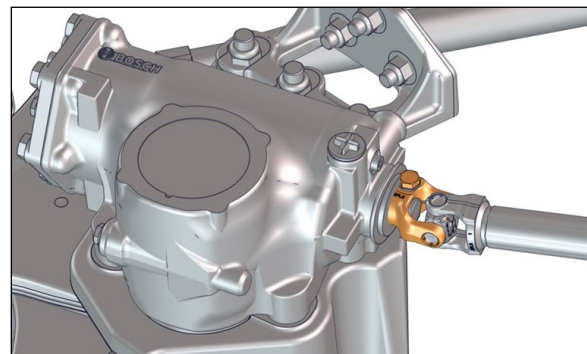

FIGURE 6
7. Disconnect the steering shaft yoke from the steering gear input shaft (Figure 6). See paragraph **10.4 t-arm**